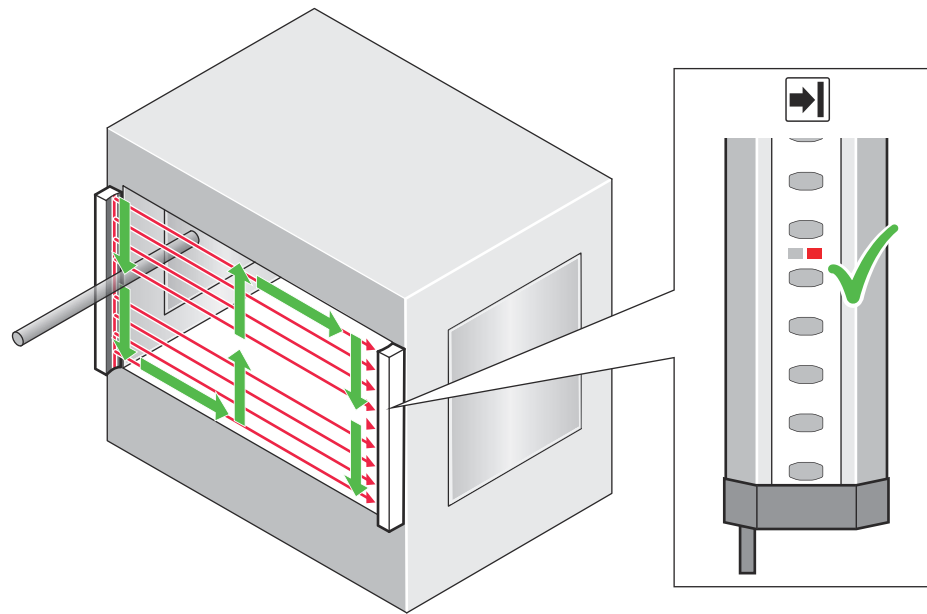

Figure 17: Test rod check: Step 1
1. Move the test rod slowly through the area to be protected (e.g., machine opening), as indicated by the arrow, see figure 17, page 28.